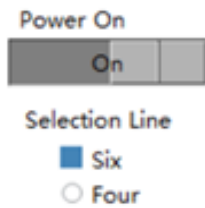
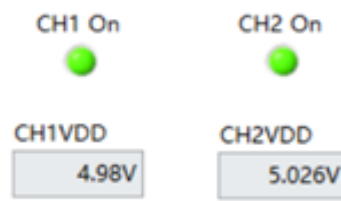

Figure 5.2.6 Powered on successfully
Figure 5.2.7 Powered on abnormally
- Click the button below "Power on/off chip" to power on the chip. When it is powered on successfully, the power on indicator light will remain green (Figure 5.2.6); When it is powered on abnormally, an error pop-up will appear, displaying powered on abnormally (Figure 5.2.7). At this time, it is necessary to check the chip and hardware connections before attempting the power on operation again